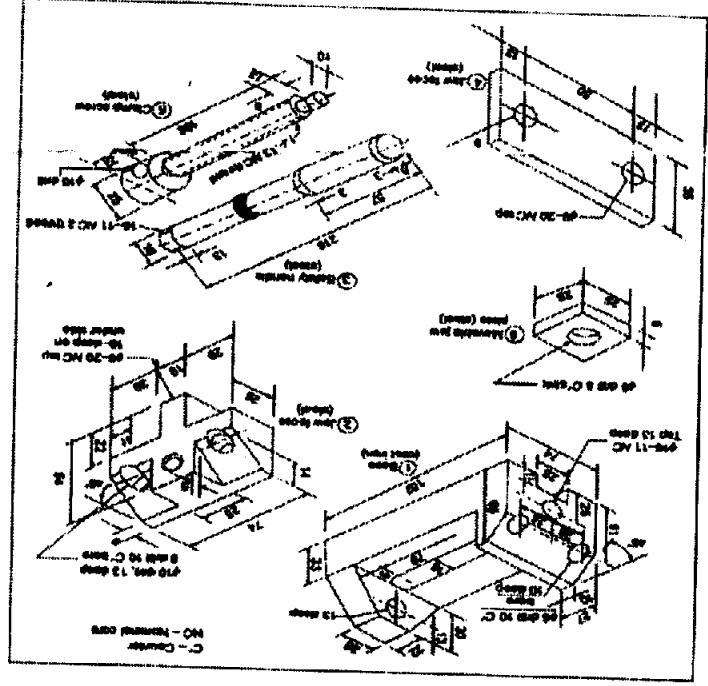

Figure 1
7. The details of a drill machine vice are shown in Figure 1. Assemble all the parts and draw the 2